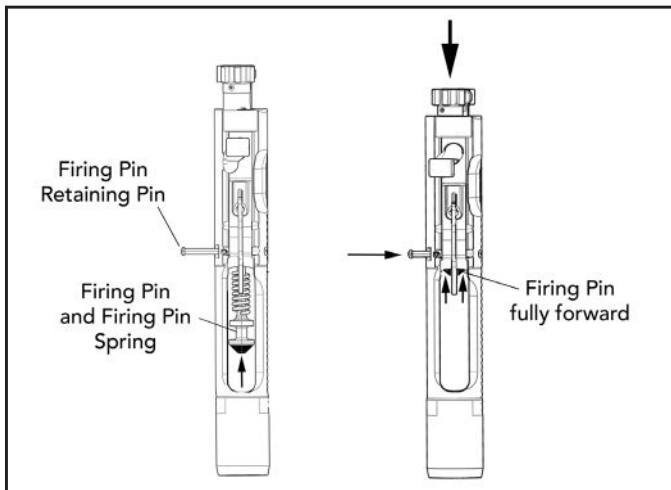

Fig. 60 – Firing Pin Retaining Pin Installation
- g. Ensure that the firing pin retaining pin is properly installed by pivoting upwards on the firing pin safety while pushing backwards on the bolt head. The firing pin should be retained inside the bolt carrier (Fig. 60).